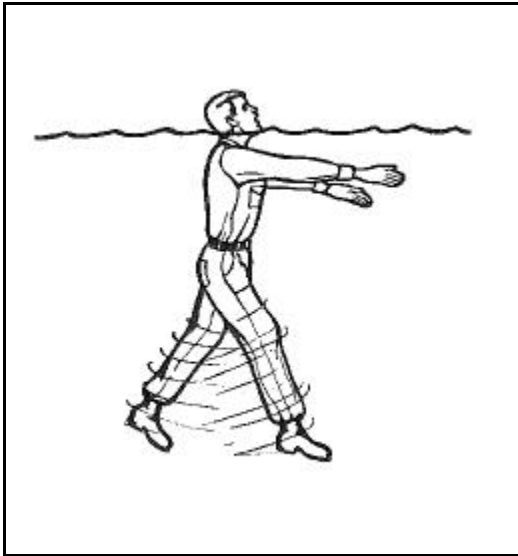

Figure 10-6. Exhalation
- **Step 3--Exhalation.** The head of the swimmer is raised just high enough for the mouth to be out of the water (Figure 10-6). The swimmer now exhales through the nose, the mouth, or both. To give the swimmer bearing, the eyes should be open.